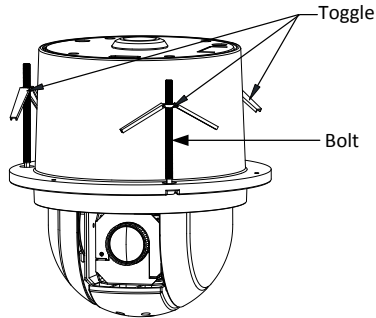

Figure 2-11 Install the Toggle Bolts
- 4) Install the toggles back as shown in Figure 2-11.